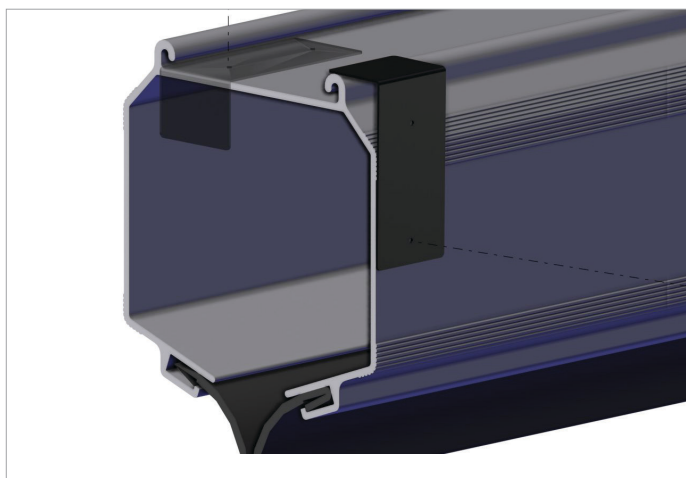

Fig. 4.3.1 Drill template on MRP
- With the use of the drill template drill four 9 mm holes at the end of the rail. For the holes on the side use the bottom hole of the template. For the holes on the top use the bottom hole on the template. Refer to fig. 4.3.1 and 4.3.2.